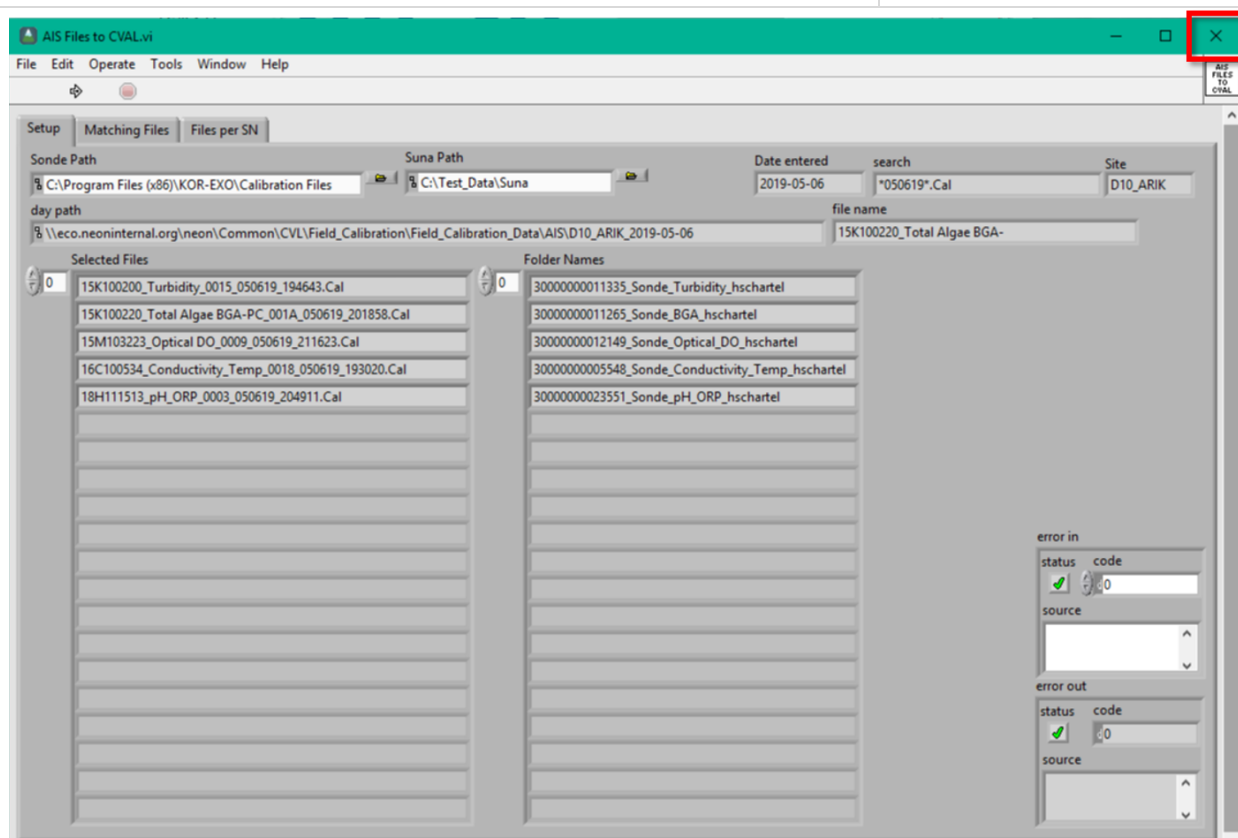

Figure 173. Click the "X" to Exit the Application
**STEP 8** | Click on the “X” to exit the application (Figure 173).